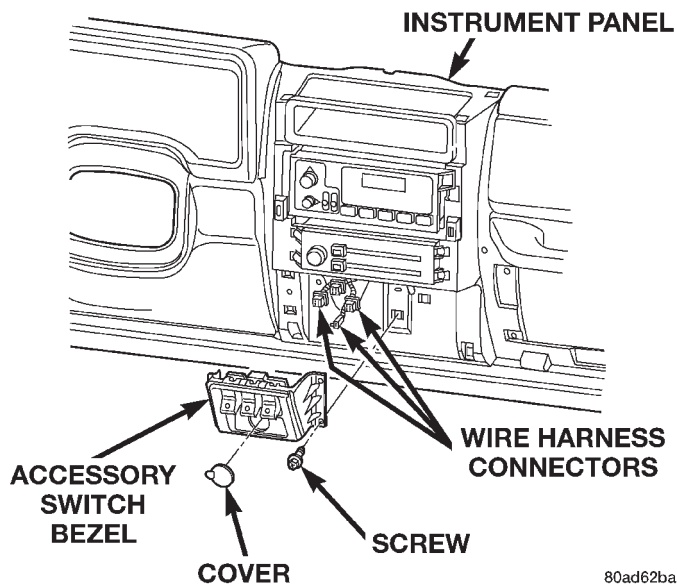

Fig. 13 Instrument Panel Accessory Switch Bezel Remove/Install
- (1) Disconnect and isolate the battery negative cable.
- (2) Remove the center bezel from the instrument panel. Refer to **Instrument Panel Center Bezel** in the Removal and Installation section of this group for the procedures.
- (3) Remove the four screws that secure the accessory switch bezel to the instrument panel (Fig. 13).